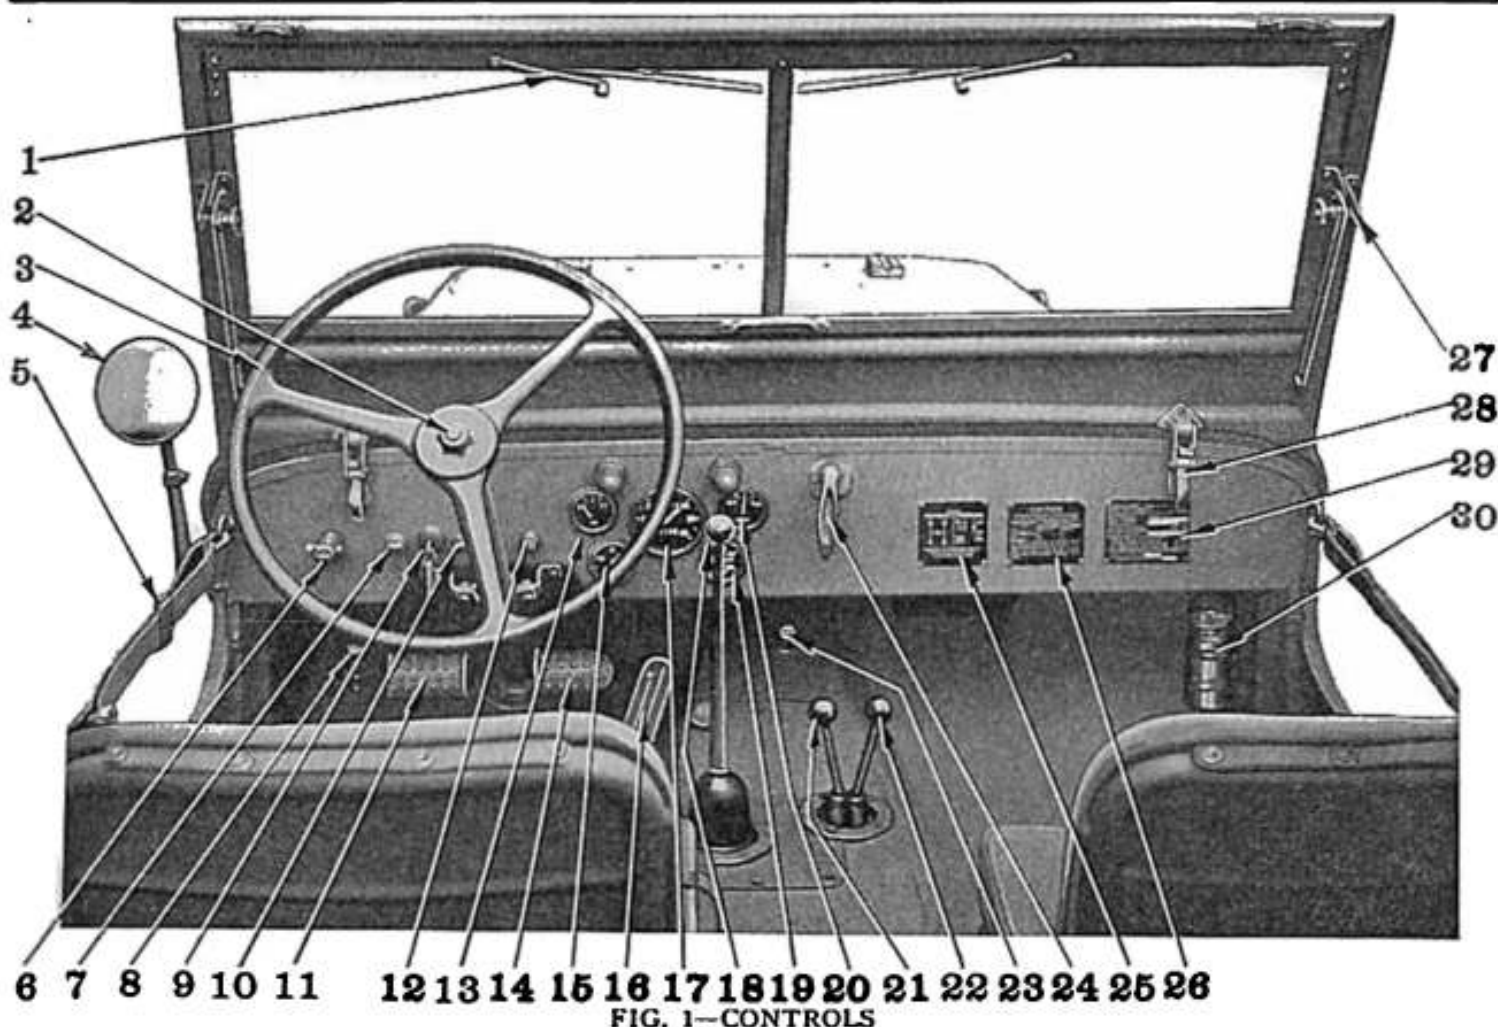
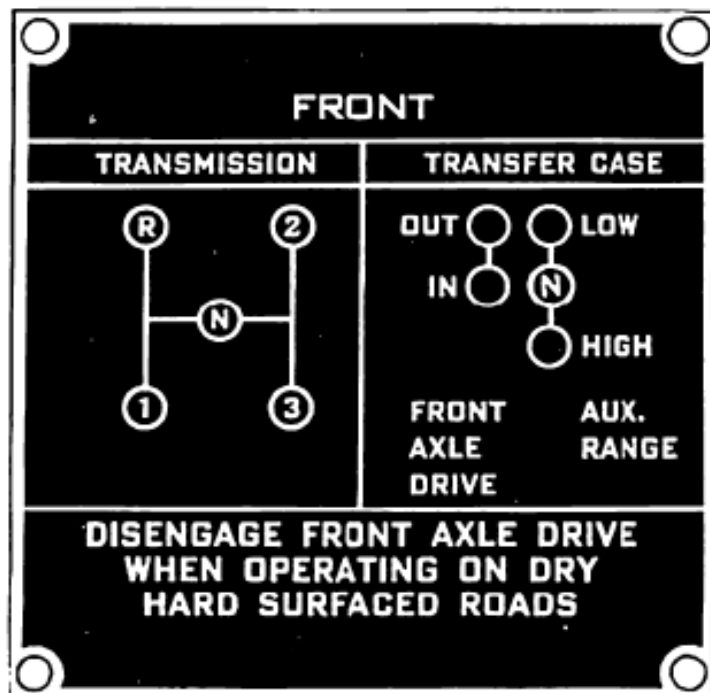

FIG. 1—CONTROLS
FIG. 4—SHIFT
### Ignition Switch—No. 9, Fig. 1.
### Light Switch—No. 6, Fig. 1
### Panel Light Switch—No. 12, Fig. 1.
### Head Lamp Beam Control Switch—No. 8, Fig. 1
### Starter Switch—No. 23, Fig. 1
### Hand Throttle—No. 10, Fig. 1.
**Carburetor Choke Control—No. 7, Fig. 1**
**Oil Gauge—No. 15, Fig. 1**
**Ammeter—No. 20, Fig. 1**
**Fuel Gauge—No. 13, Fig. 1**
**Temperature Indicator—No. 19, Fig. 1**
**Speedometer—No. 17, Fig. 1**
The nomenclature plate identifies this vehicle and gives the manufacturer's model and serial number, date of delivery, recommended fuel and lubricating oil. Service publication numbers are also given for reference. (When ordering parts be sure to give serial number). See No. 20, Fig. 1.
**Transfer Case Shifting Instructions—Fig. 4**
On hard surface and flat roads disengage front axle drive by placing center shift lever, (front axle drive) in forward position. No. 25, Fig. 1.
The right hand lever (third from driver) controls transfer case gear ratio—low or high. No. 22, Fig. 1. The low gear ratio can only be used when front axle drive lever is in the rear position to engage front wheel drive.
Proper position for disengaging axles to use power take-off unit is shown as "N" in Fig. 4.
#### **Clutch Pedal—No. 11, Fig. 1**
#### **Brake Pedal—No. 14, Fig. 1**
#### **Hand Brake Lever—No. 24, Fig. 1**
#### **Accelerator—No. 16, Fig. 1**
#### **Gearshift Lever—No. 18, Fig. 1**
This lever is used to shift the gears in the transmission. There are four positions in the movement of the lever in changing the gears in transmission. See diagram for lever location in different gears. Fig. 4.
#### **Horn Button—No. 2, Fig. 1**
1. Transmission gearshift lever must be in neutral position. See Fig. 4.
3. Pull out choke button all the way to obtain proper fuel and air mixture for starting, No. 7, Fig. 1. Choking is not necessary when engine is warm.
5. Disengage clutch by depressing pedal, holding down till engine starts, No. 11, Fig. 1.
6. Push on starter button No. 23, Fig. 1, to crank engine. Release button when engine starts.
1. Push clutch pedal down to disengage clutch No. 11, Fig. 1.
2. Shift transfer case (center hand lever) in forward position (front axle disengaged) No. 21, Fig. 1, right hand lever No. 22, Fig. 1 in rear position (high gear ratio).